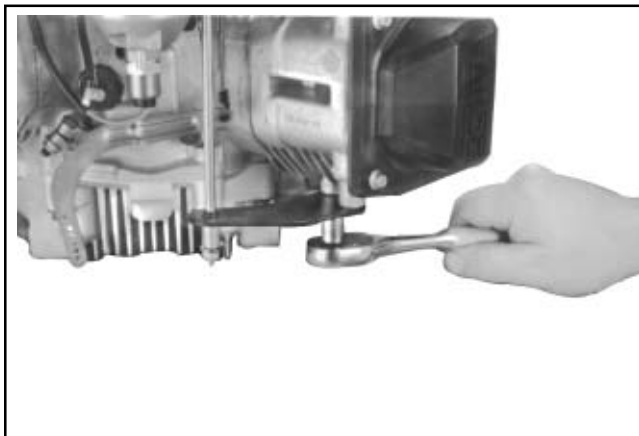

Figure 11-70. Installing Lower Support Control Bracket.
6. Install the lower support control bracket if equipped with a control panel. See Figure 11-70